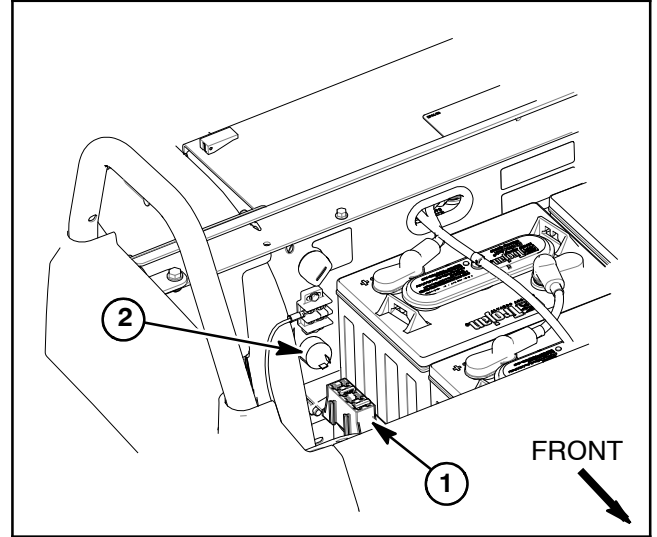

Figure 39
The reverse alarm sounds when the direction switch (forward/reverse) is placed in the reverse position. The alarm is located under the seat assembly attached to the rear frame panel near the fuse block (Fig. 39).
3. Disconnect wire harness connectors from alarm (Fig. 39).